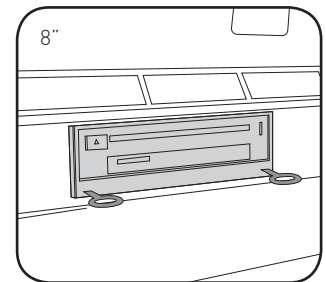

Fig. 1.7
7. **[8 inch radio]** Open glovebox and locate the factory CD player. Using 2 of the supplied removal tools, remove the CD player in the same fashion the radio was removed. (Fig. 1.7) Disconnect main wire harness and all antenna connections.